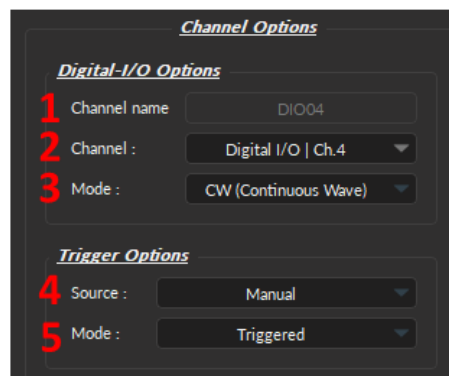

Figure 3.20: Channel(s) configuration window, Digital I/O Channel Options
1. The **Channel name** (Fig 3.20, 1) allows user to specify a label for each channel.
2. The **Channel** (Fig 3.20, 2) identifies the channels available to create a Digital I/O. The channel can be changed by selecting a new one from the drop-down list. Each numbered channel on the physical console corresponds to the same number of the digital channel within the software.
3. The **Mode** (Fig 3.20, 3) identifies the type of signal sent (for output channels) or the way the signal is measured (for input channels). Three modes are available:
1. The **Source** trigger option (Fig 3.20, 4) allows the choice of a **Manual Trigger** (activated by a user) or an **Input** trigger, coming from a **Digital I/O** channel set in input mode.
2. The **Mode** (Fig 3.20, 5) defines how the trigger activates a sequence. This includes input sequences, which can be triggered/gated by an outside source.
The parameters contained in the **Sequence Options** depend on the **Channel Mode** (selected in **Channel Options**, Fig. 3.20), as following:
- The **Square** channel mode (Fig. 3.20) allows the creation of a square TTL pulse sequence. This includes all sequence options as the **CW** mode (Fig. 3.23, 1-3), with the following additions: